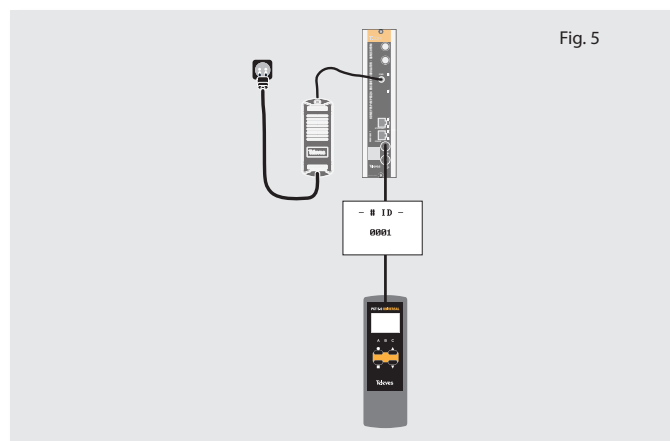

Fig. 5
5. If you have multiple units, each can function as master controlling all others through the web. For this, connect them to the same network and use the programmer to identify, assigning them a different "#ID" field number (figure 5).